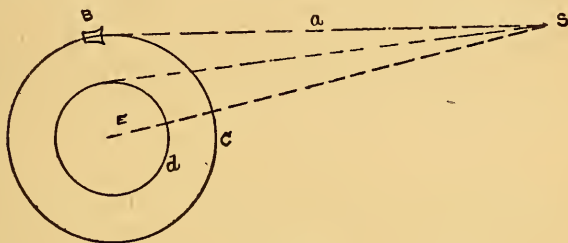

FIG. 35.
5. The elevation necessary on curves, however, depends more on the speed than on the degree of curve. For instance, if a four-degree curve requires 4-inch elevation for a speed of fifty miles per hour, for a speed of twenty-five miles per hour it would require not 2 inches but only 1 inch to balance the weight of trains. This may be illustrated by Fig. 35.